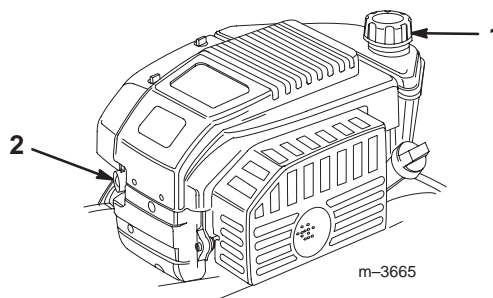

Figure 5
1. Clean around the fuel tank cap (Fig. 5).
2. Remove the cap from the tank (Fig. 5).
1. Push the primer three times, waiting two seconds between each push (Fig. 5).